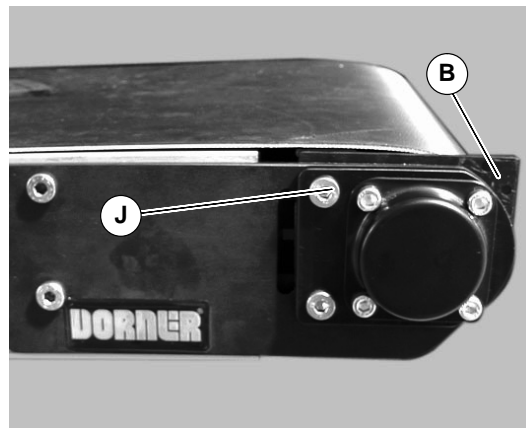

Figure 26
9. Replace with transfer plate spacer plates (B of Figure 26). Insert screw (J) hand tighten.